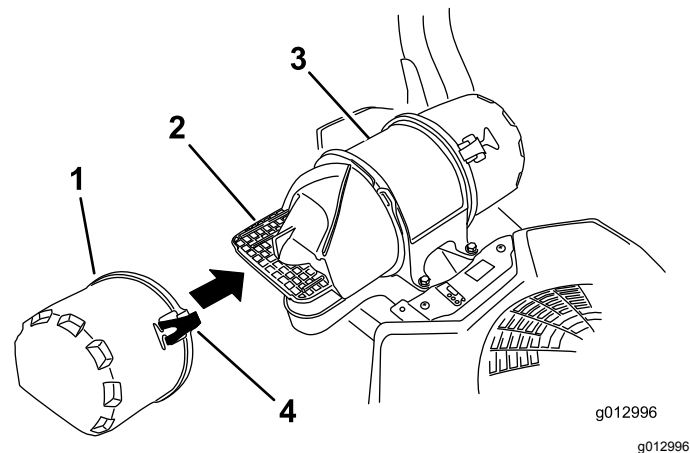

Figure 36
3. Release the latches on the air cleaner and pull the air-inlet cover off the air-cleaner body (Figure 36).
5. Install the air-inlet cover and secure it with the latches (Figure 36).